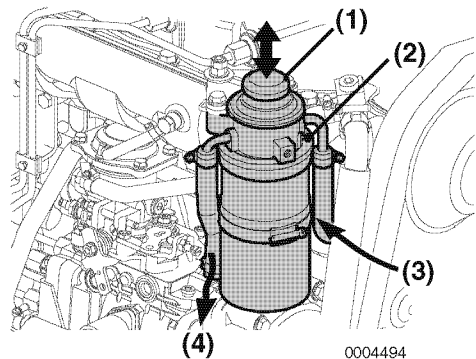

Figure 6
3. Loosen the air bleed screw (**Figure 6, (2)**) two to three turns.
4. Push up and down on the priming pump (**Figure 6, (1)**) to release air out of the air bleed screw.